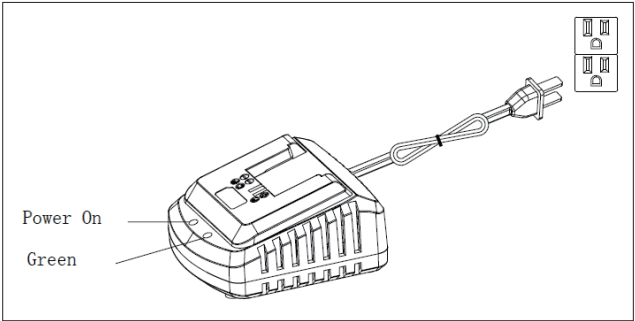

Fig. 5
3. Check that the voltage of the electrical outlet is the same as that marked on the rating plate of the battery charger. Then, insert the charger's plug into the wall outlet. When you plug in the charger, the green light at the top right will illuminate and stay green. (Fig.5)